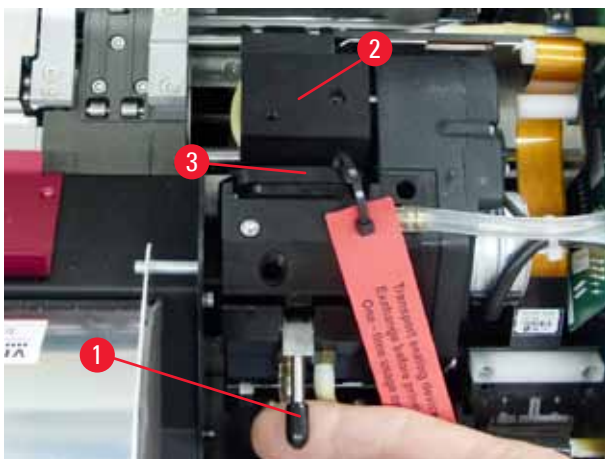

Fig. 30
4. The print head (→ "Fig. 30-2") moves upward to a position approx. 1 cm away from the sealing lip (→ "Fig. 30").